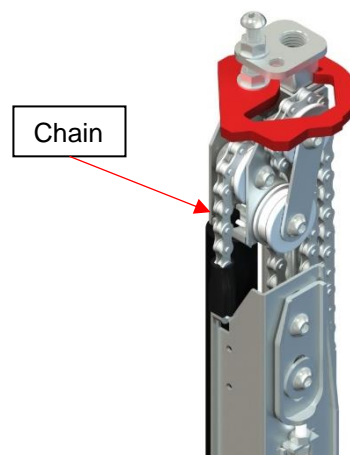

Figure 25
8) Inspect the post's cables and chains for signs of deterioration. If this is the case, please call your local COVANA dealer immediately. (Figure 25)